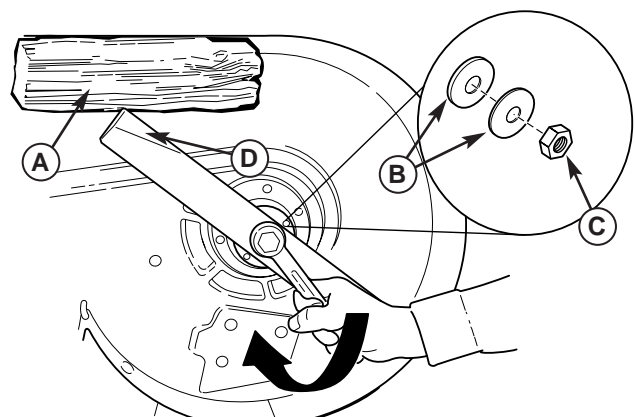

Figure 22. Blade Installation
3. Remove the capscrew (D, Figure 22), spring washer (C), hex washer (B), and blade.
7. Reinstall the blade with the lift wings (D, Figure 22) pointing up toward the mower deck as shown.
8. Reinstall the spring washers (B, Figure 22) and nut (C). Use a wooden block (A) to prevent blade rotation while tightening the nut (C) to 80-90 ft. lbs. (108-122 Nm).